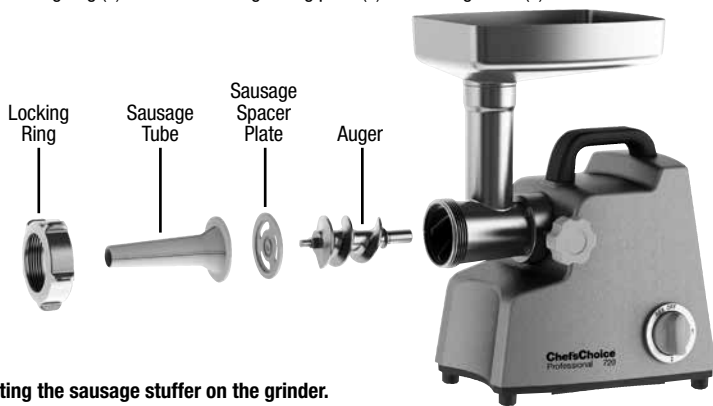

Figure 1. Mounting the sausage stuffer on the grinder.
3. Insert the sausage spacer plate (15) onto the shaft on the front of the auger (see Figure 1).
4. Place the “sausage tube” (16) in front of the feed/grinder tube.
2. Make sure the grinder is turned “off” and unplugged from its power source. Now mount the sausage stuffer onto the grinder as shown in Figure 1.